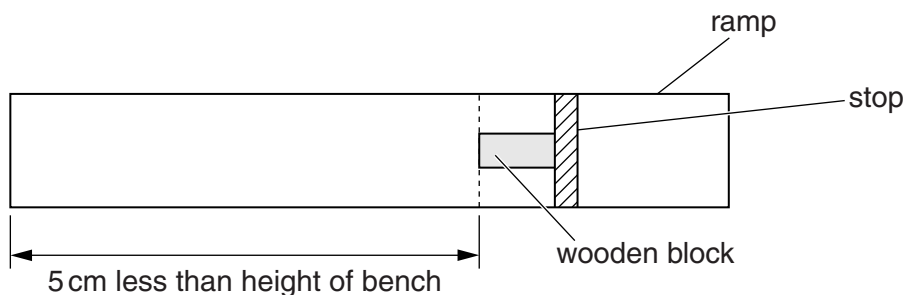

Fig. 3.1 (top view)
2. The ramp should be approximately 1 m long and 15 cm wide. The top of the ramp should be supported at the edge of the bench and the bottom of the ramp will rest on the bench. The block of wood will be pulled up the ramp by a falling mass. The mass will only be able to fall a distance which is approximately equal to the height of the bench. It is necessary to stop the block of wood when it has moved this distance up the ramp. This can be achieved using a 15 cm length of wood perpendicular to the side of the ramp. This should have a rectangular cross section and should be fixed to the ramp to form a stop. This is shown in Fig. 3.1. The ramp should be stiff so that it does not bend when the block of wood moves up it.